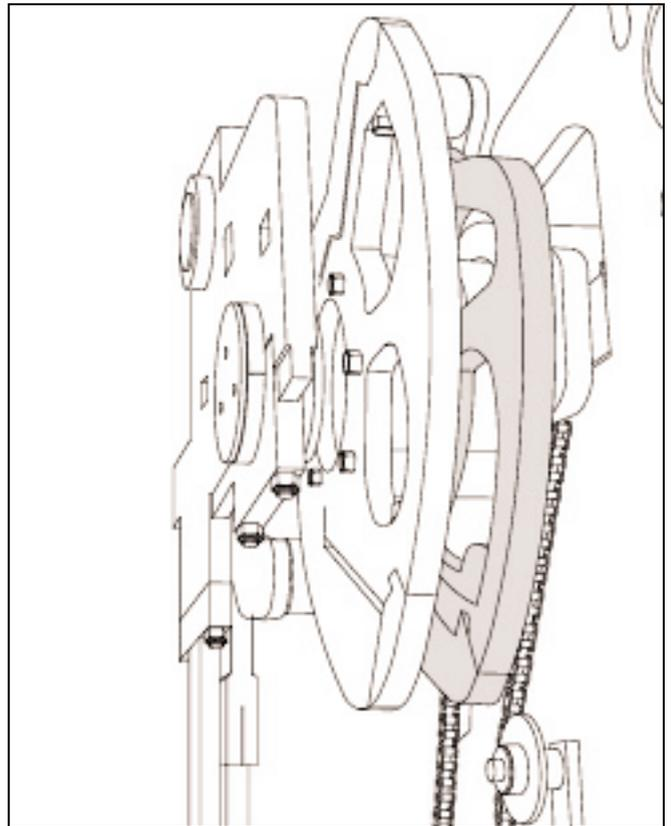

Figure 7.4 STRIPPER HEAD RAISING CAM.
- 7.3 Run the machine to “second stop” position which is controlled by the rotary sensor. The roller should be centered with the “second stop” marks on the pallet receiver cam. “Second stop” is the point where the stripper head shaft roller just falls off the high lobe of the stripper head raising cam. The stripper head raising cam is the second cam from the outside on the right side of the machine (see figure 7.4).